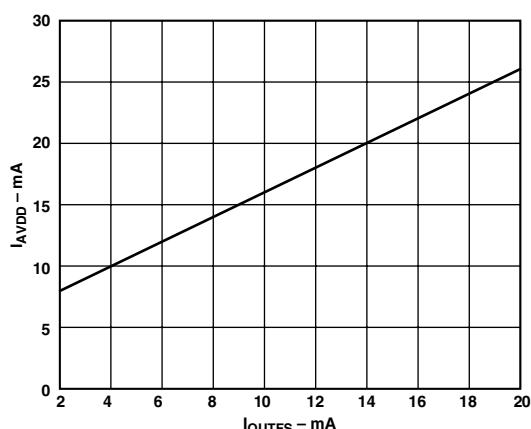

Figure 47.  $I_{AVDD}$  vs.  $I_{OUTFS}$
The power dissipation,  $P_D$ , of the AD9760 is dependent on several factors that include: (1)  $AVDD$  and  $DVDD$ , the power supply voltages; (2)  $I_{OUTFS}$ , the full-scale current output; (3)  $f_{CLOCK}$ , the update rate; (4) and the reconstructed digital input waveform. The power dissipation is directly proportional to the analog supply current,  $I_{AVDD}$ , and the digital supply current,  $I_{DVDD}$ .  $I_{AVDD}$  is directly proportional to  $I_{OUTFS}$  as shown in Figure 47 and is insensitive to  $f_{CLOCK}$ .